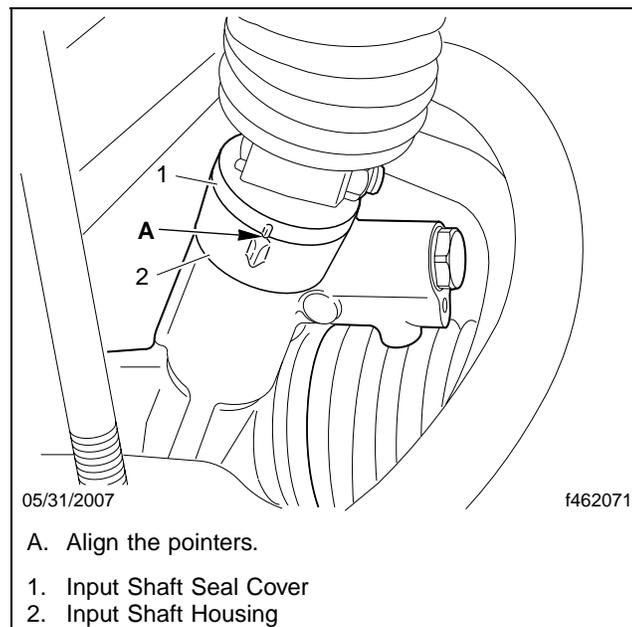

Fig. 10, Pointer Alignment
- 42.2 Align the pointers on the input shaft seal cover and the input shaft housing. See **Fig. 10**.
42.2 Align the pointers on the input shaft seal cover and the input shaft housing. See **Fig. 10**.
- 46.2 With the wheels on turnplates, center the rack travel by aligning the timing pointers on the input shaft seal cover and the input shaft housing. See **Fig. 10**.